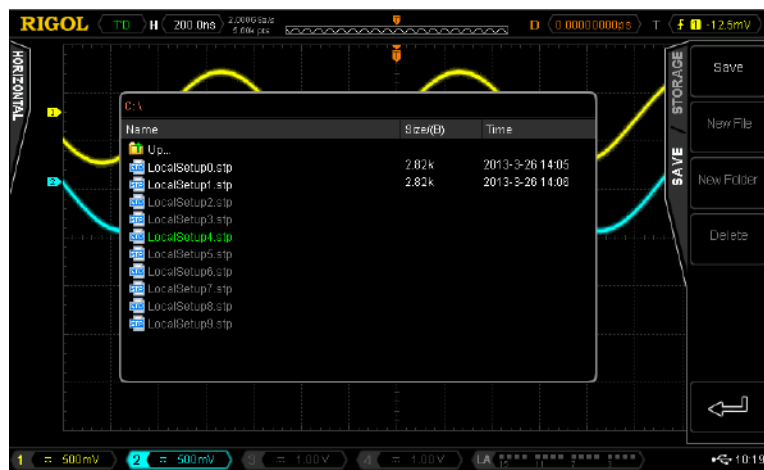

Figure 13-1 Local Disk (Storage)
- 3) Press **Save** to turn on the disk management interface. Turn the multi-function knob  to select "Local Disk" (the characters turn green) and press down the knob to open the local disk storage interface (as shown in Figure 13-1).